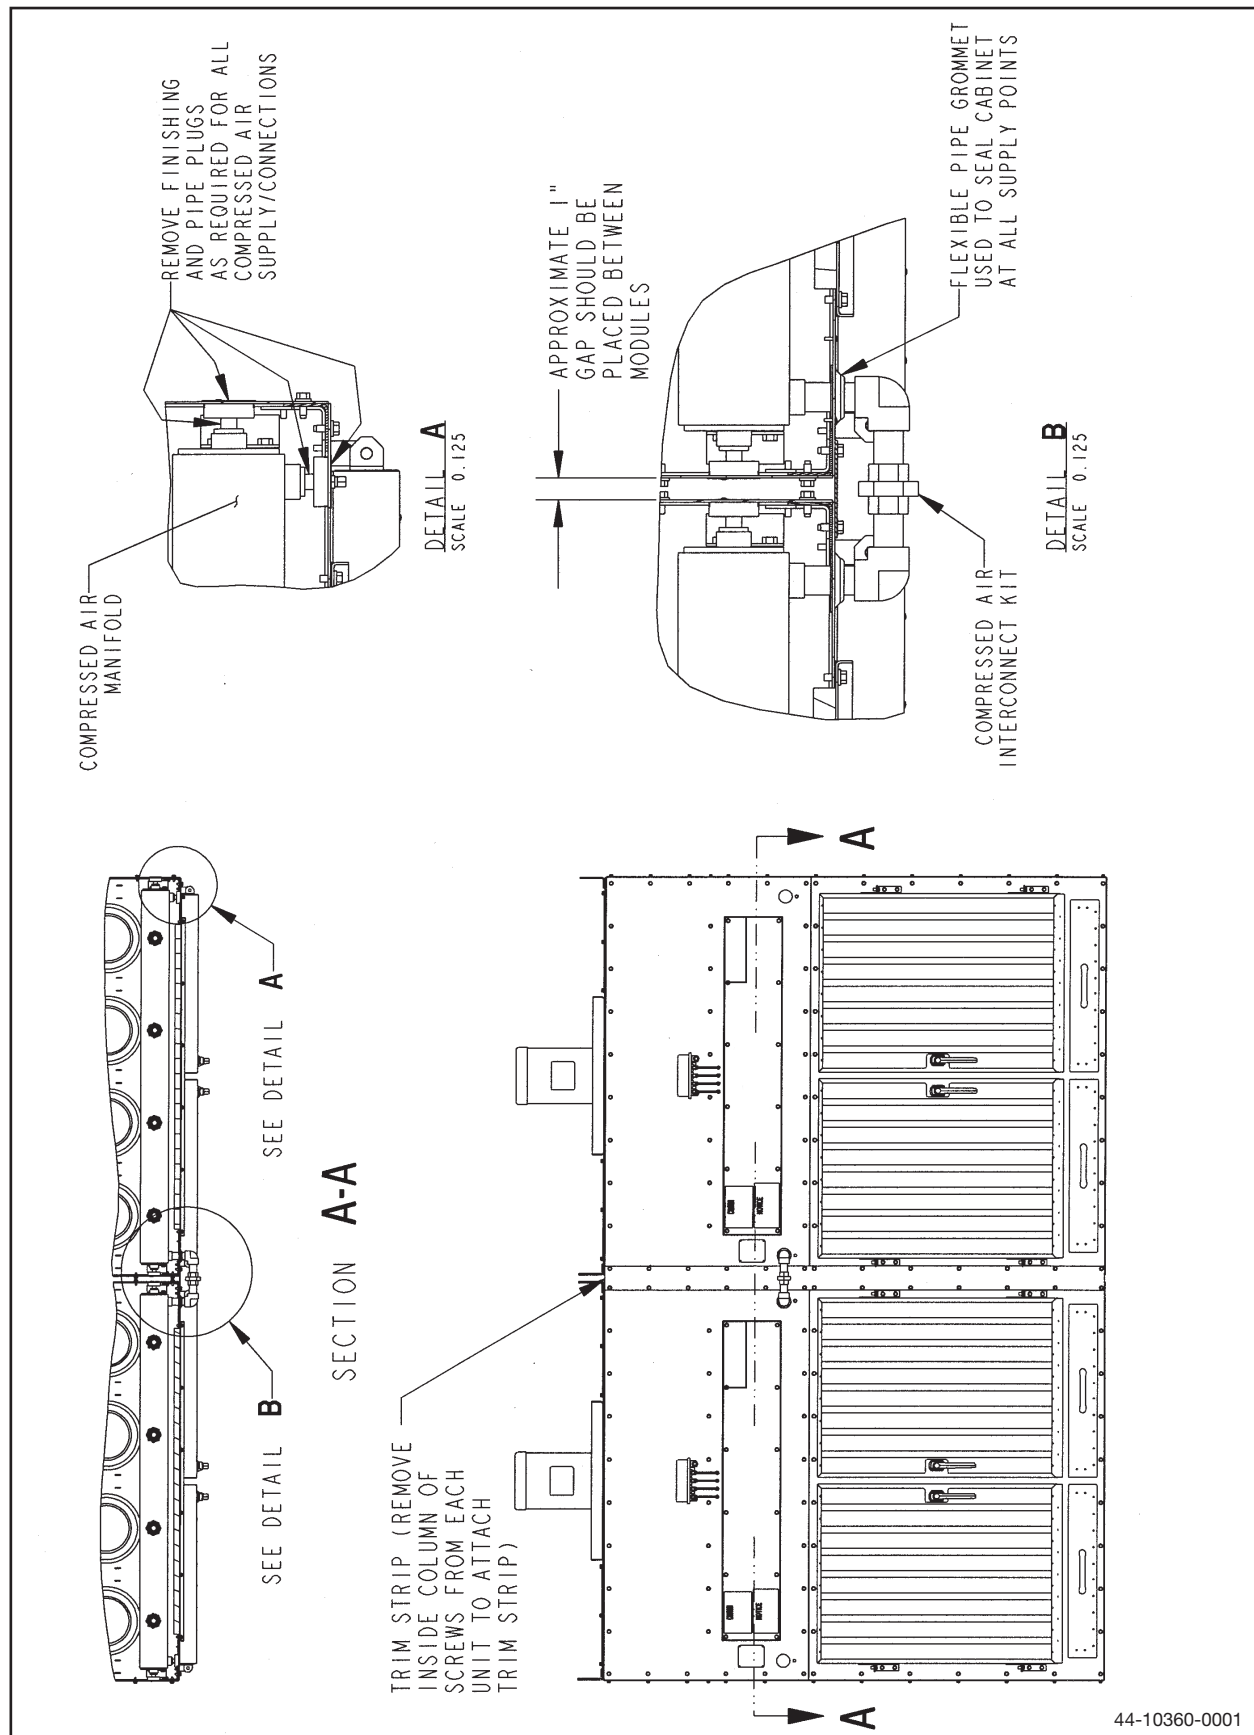

Figure 3
Each module comes in a 3', 6' or 9' module width and can be installed on either end or center interchangeably. The booth assembly builds upon the modules, therefore, it is important to locate the modules on a flat surface. Refer to Figure 3 for assistance for both the module and compressed air connection.
2. Within the cabinet each side of the compressed air manifold is equipped with (4) plugged, 1" NPT couplings. After selecting the appropriate connection points, remove the corresponding plug(s). Adjoining modules are supplied with a piping connection kit as shown in Figure 3 to supply air to each module. Pipe plugs can be removed using a wrench on the inside of the cabinet through the access panel or by using a 15/16" socket wrench through the cabinet holes vacated by the finishing plugs.
4. Clean, dry, 90-110 PSIG compressed air is required for the pulse cleaning system to properly function. A shut-off valve, pressure regulator and pressure gauge should be installed close to the unit. Parker Hannifin recommends dedicated oil and water removal filters be used to ensure clean, dry air is delivered to the pulse system. Contact your local representative for information on the Parker Hannifin, Inc. pneumatic valve kit. Refer to Figure 3 for compressed air piping connection.
5. Parker recommends 1" diameter air line to supply the unit. A flexible pipe grommet is provided to seal the cabinet once the connection is made. Refer to Figure 3.